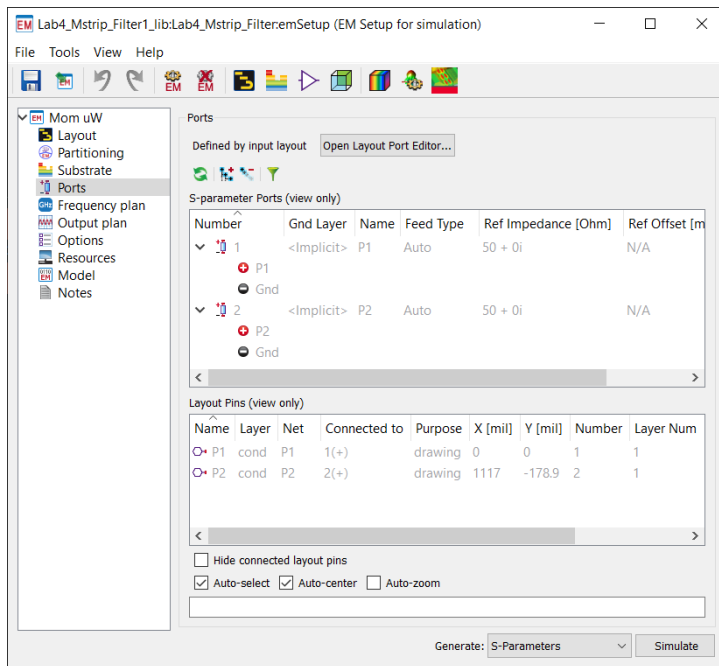

Figure 17. Edit substrate ports
6. Click **Ports** in the EM setup window to inspect that there are two ports defined (one for each Pin placed in layout) as shown in Figure 17. You might need to drag down the bottom border of the **S-Parameter Ports (view only)** box to see Port 2.